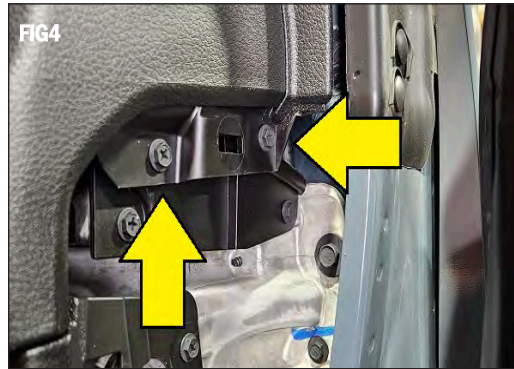

**FIG3 - FIG10 ARE FOR 2024 AND NEWER WRANGLERS AND GLADIATORS ONLY. IF YOUR VEHICLE IS 2023 OR EARLIER THEN PLEASE PROCEED TO FIG11.**
*Pop off passenger side cover plate using trim removal tool as shown. (FIG 3)*